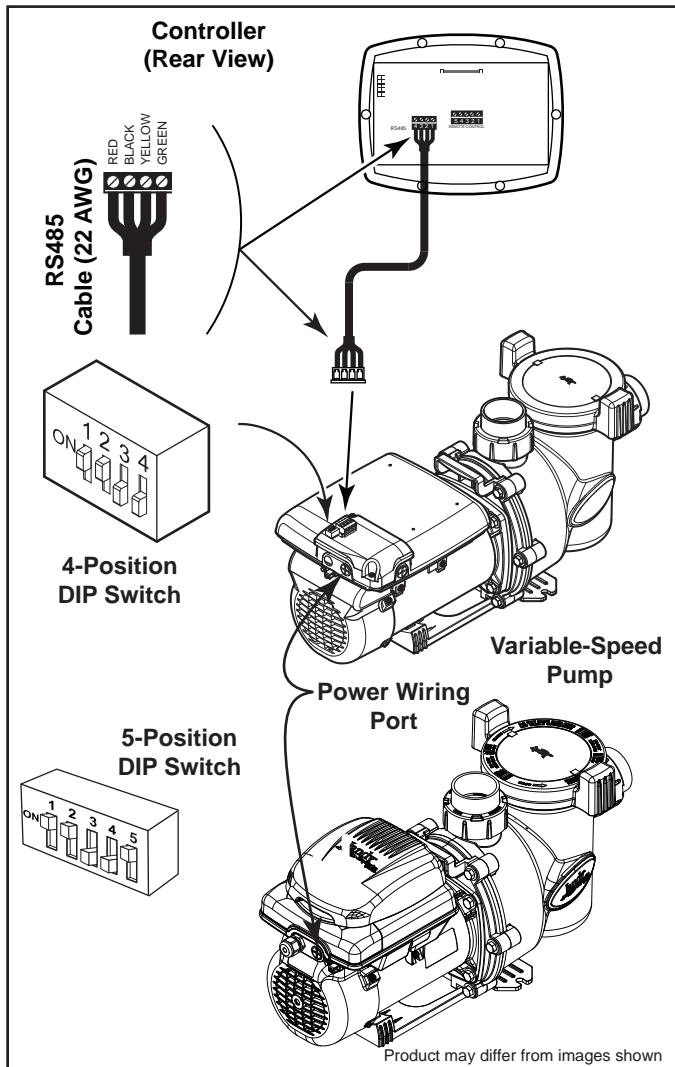

Figure 9. Wiring Variable-Speed Controller (JEP-R)
4. Attach the four (4) wires in the RS-485 cable to the RS-485 connector. Match the wire colors with the positions on the connector: 1- red, 2- black, 3- yellow, and 4- green. See Figure 9.
- Slide dip switches 1 and 2 up, so they are in the ON position, and slide switches 3 and 4 down, so they are in the OFF position. See Figure 9.
See Figures 9 and 10 for compartment’s location details. An access cover with Phillips-head screw must be removed before proceeding.